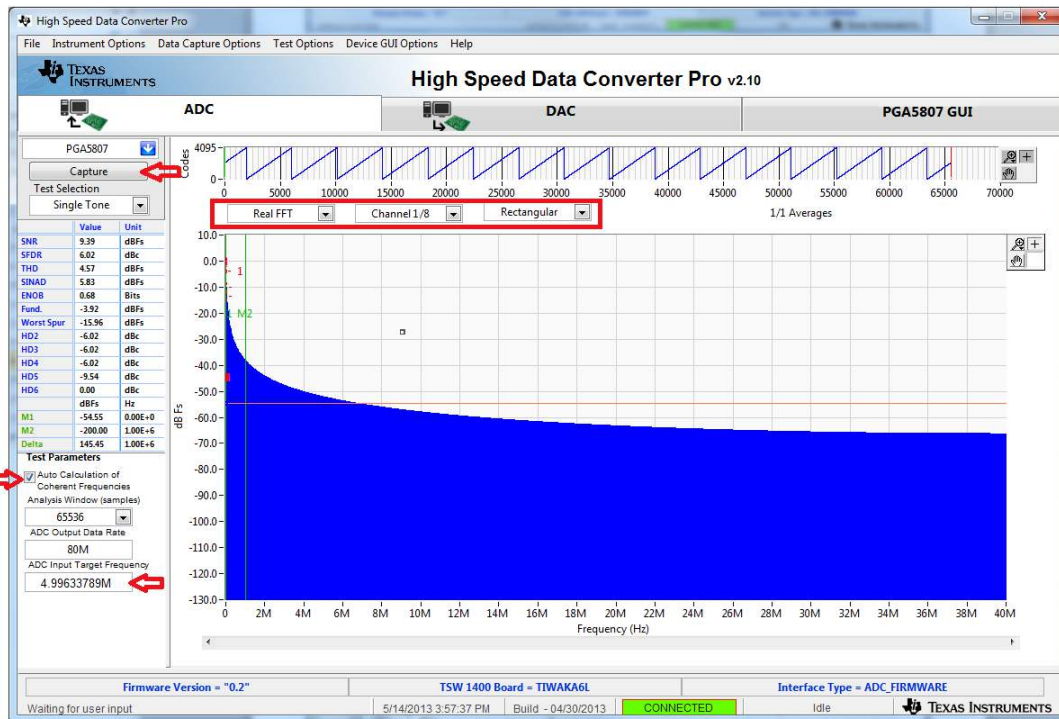

Figure 41. HSDCpro GUI Setup
3. Click on the *ADC* tab and perform the following steps as illustrated in Figure 41.